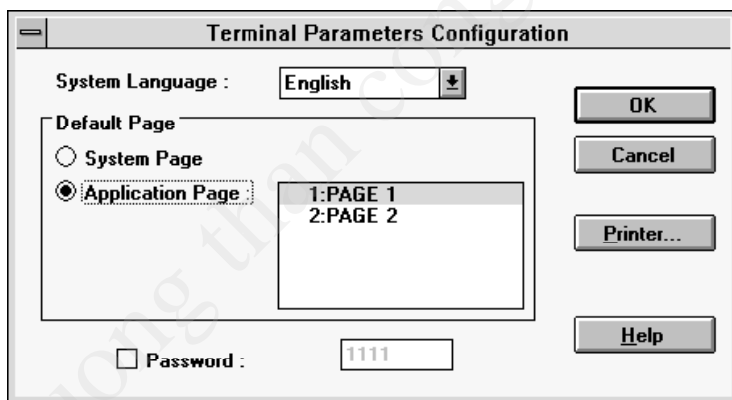

Figure 20: Configuring Terminal Parameters
- a. To have an application page displayed by default, select the **Configuration** menu header, then select the **Terminal Parameters** option. The *Terminal Parameters Configuration* window appears (see Figure 20):